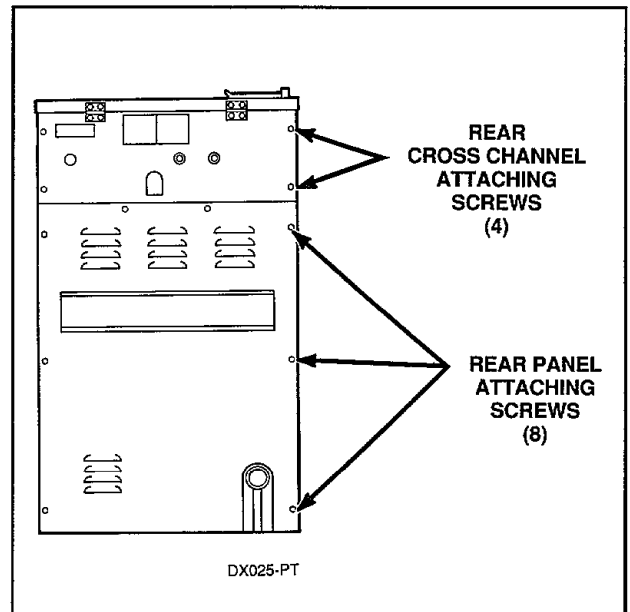

Figure 9
- a. Remove screws holding the rear panel to the washer side panels and to the rear cross channel, *Figure 9*.
- Remove screws holding the rear panel to the washer, *Figure 9*.
- f. Remove screws holding rear panel to washer side panels and rear cross channel and remove rear panel, *Figure 9*.
- d. Remove screws holding rear panel and cross channel to the side panel, *Figure 9*.